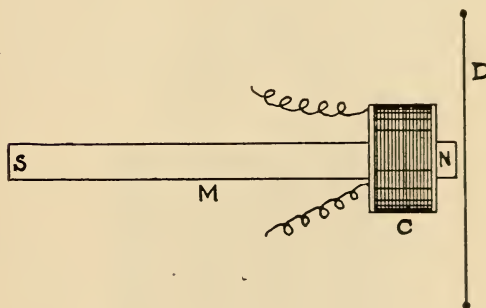

FIG. 3.
ly of three parts, a permanent magnet, an electromagnetic coil, and a vibrating diaphragm. The illustration, Fig. 3, shows clearly how these parts are arranged. The bar magnet (M) is of steel to permanently retain its magnetism. The coil (C) may be wound directly on one end
causing the original disturbance is reproduced accurately by the receiver. Different manufacturers have adopted various forms of construction for telephone receivers, and have added a few parts for mechanical reasons; but the principle of all receivers is the same as that shown in Fig. 3.